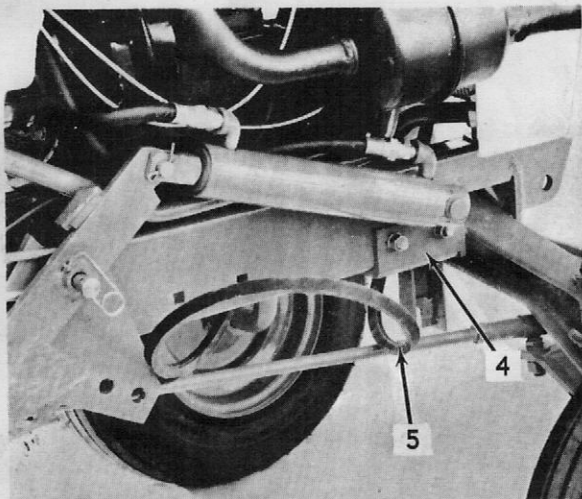

Figure 12. Installing the Front Mounting Brackets and Drive Belt
4. Loosely attach the right and left hand front hanger brackets, Figure 12, to the forward set of square holes on each side of the tractor frame channels using the four preassembled square neck bolts, nuts and lockwashers.
5. Pull the PTO lever out to the "ON" position. Carefully insert the drive belt up through the front end of the tractor frame channels, Figure 12, between the fan and heat exchanger and place over the clutch pulley. Push the PTO lever back into the "OFF" position.